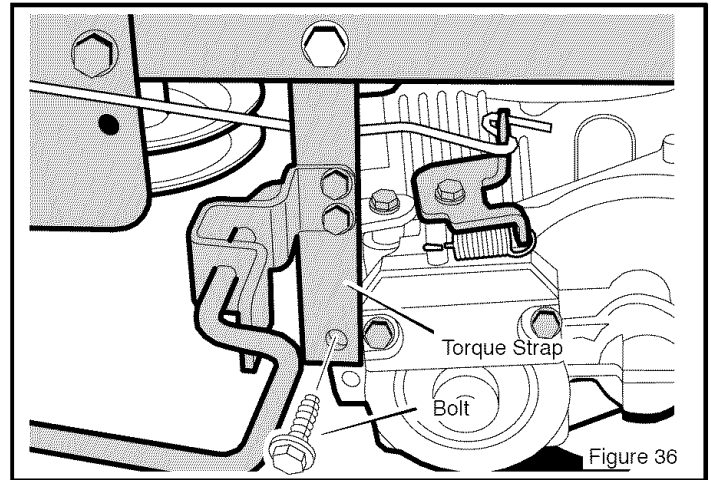

Figure 36
5. Remove the **bolt** from the **torque strap** (see Figure 36).